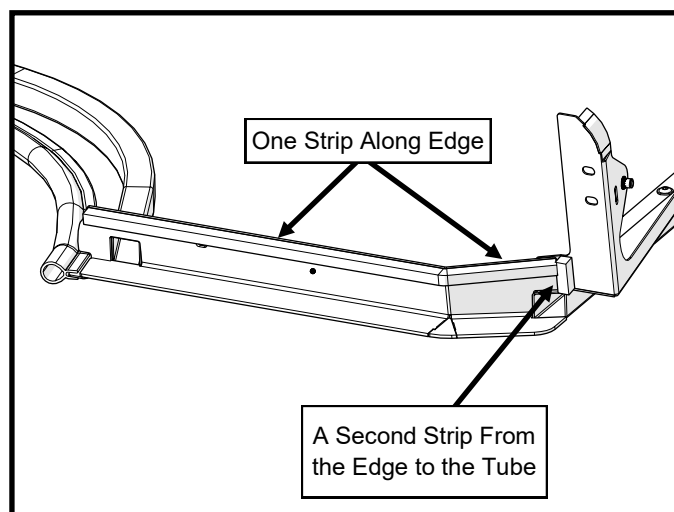

Figure 26: Install Foam Gasket
26. Locate the left side frame and install the supplied foam gasket along the bottom of the floorboard as shown in figure 26. Repeat on the right side frame.